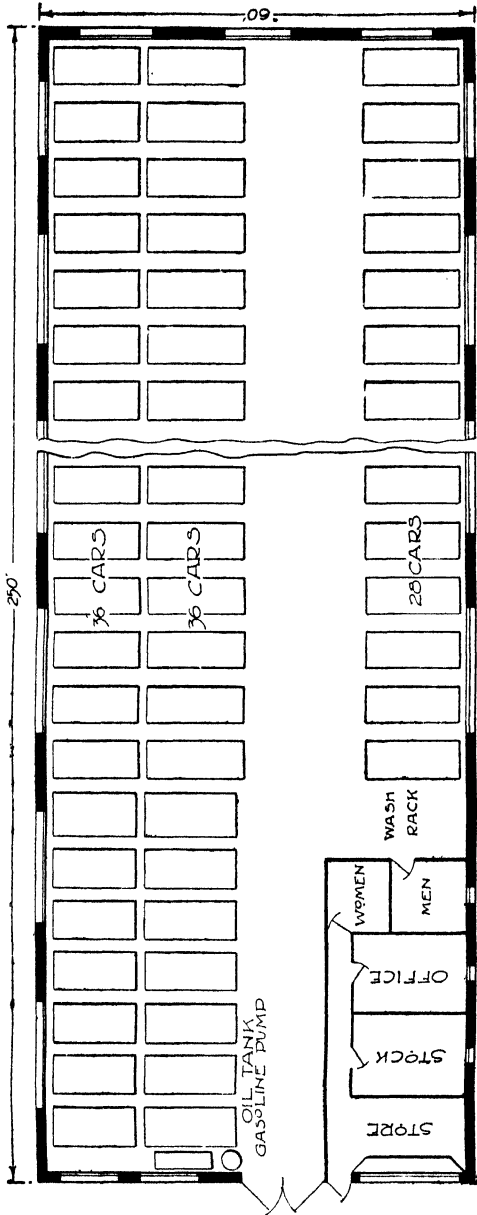

Fig. 13. Very Long and Narrow Building Made into 100-Car Garage with Very Regular Layout
**Typical Arrangements.** *Layout 9.* Fig. 13 shows a one-story garage of the amount of floor space which entitles it to be called large. It is an old remodeled building with a width sufficient to